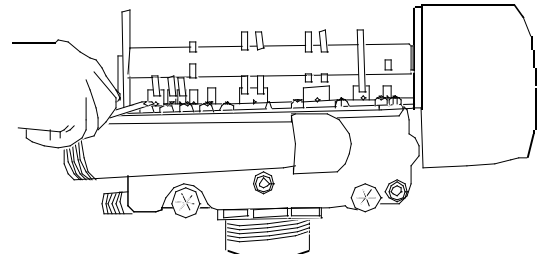

Figure 8
3. Remove cover and with screwdriver, relieve tank pressure by pushing open valve No. 7 (rear flapper) on control as shown (Figure 8).
3. Relieve system pressure by opening valve No. 7 (at rear) with a screwdriver (Figure 8).
2. Relieve pressure by opening the Backwash Drain Valve (the seventh back from the control) with a screwdriver (Figure 8).